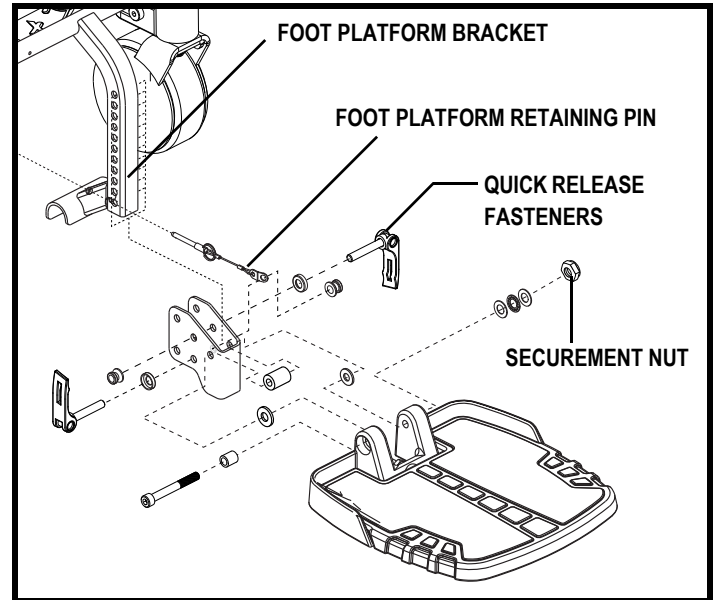
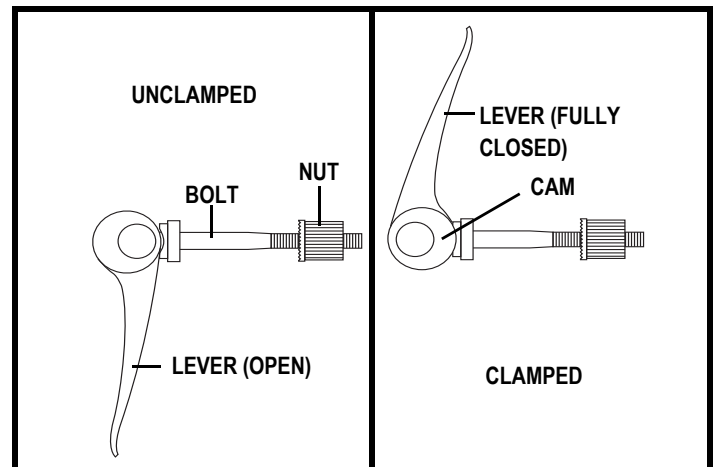

Figure 20. Foot Platform Adjustment
Figure 21. Quick Release Fastener Operation
1. Remove the quick release fasteners from the foot platform bracket. **See figure 20.**
Quick Release Fasteners: The foot platform is attached to the power base with two quick release fasteners. **See figure 20.** Each quick release fastener consists of a bolt, a lever, and a nut. **See figure 21.** The lever has a cam on the end that allows it to clamp into place. The quick release fastener has two states: clamped and unclamped. When the lever is open, the quick release fastener is unclamped. When the lever is closed, the quick release fastener is clamped.